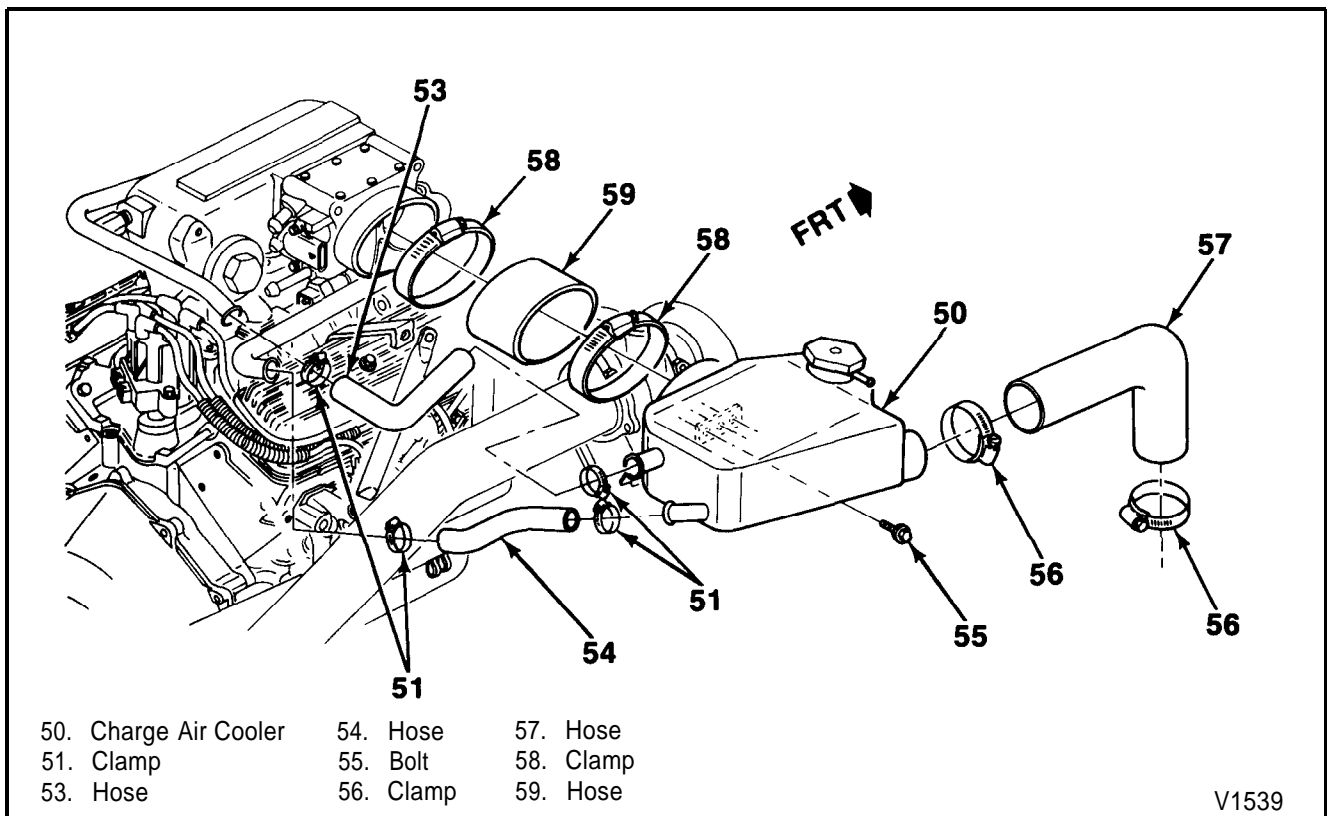
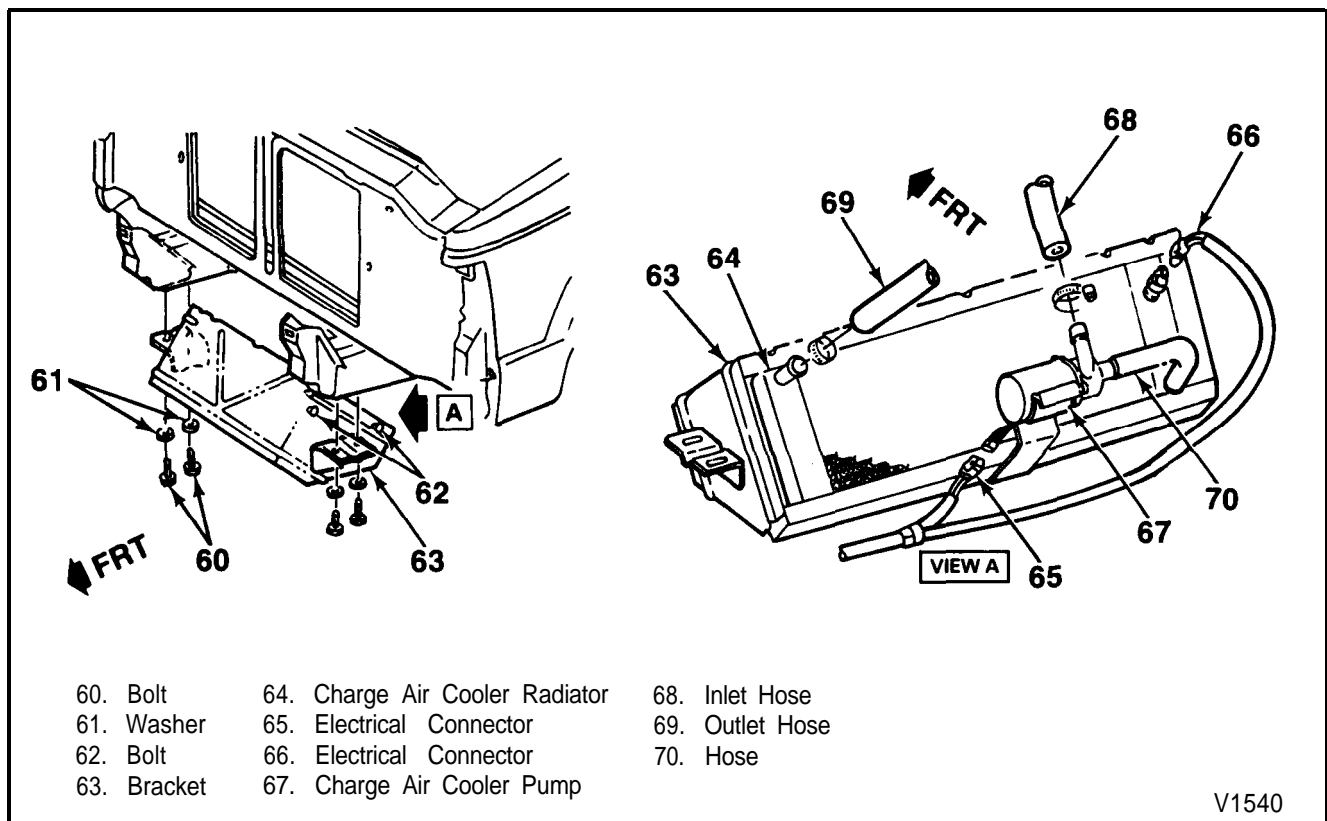

Figure 12 - Charge Air Cooler
Figure 13 - Charge Air Cooler Radiator
2. Bolts (55) attaching the charge air cooler (50) to the mounting bracket.
3. Charge air cooler (50).
**↔ Install or Connect (Figure 12)**
1. Charge air cooler (50) to mounting bracket.
2. Bolts (55) attaching charge air cooler (50) to the mounting bracket.
3. Clamps and hoses to the charge air cooler (50).
**↔ Remove or Disconnect (Figure 13)**
1. Air deflector shield from studs on bottom of bracket (63).
3. Clamps and hoses from the charge air cooler radiator (64) and charge air cooler pump (67).
**↔ Remove or Disconnect (Figure 12)**
1. Clamps and hoses from the charge air cooler (50).
### Install or Connect (Figure 13)
### Remove or Disconnect (Figure 13)